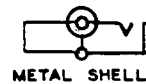

Fig. 19—365A Plug
2.09 365A: The 365A plug (Fig. 19) consists of a 466B jack that has the center contact connected to the body of the jack by a copper wire having waterproof insulation and formed into a loop. The 365A plug is used with the 79C test set in testing the L-Carrier Telephone System.